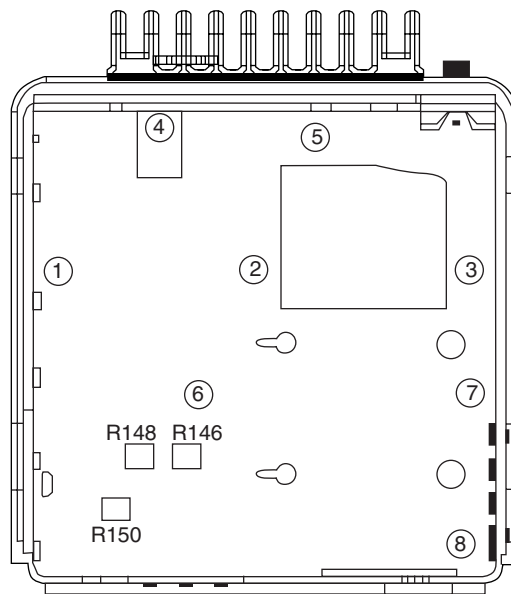

Figure 32. Tuning Potentiometers
- e. Figure 32 illustrates the relative placement of the tuning potentiometers.